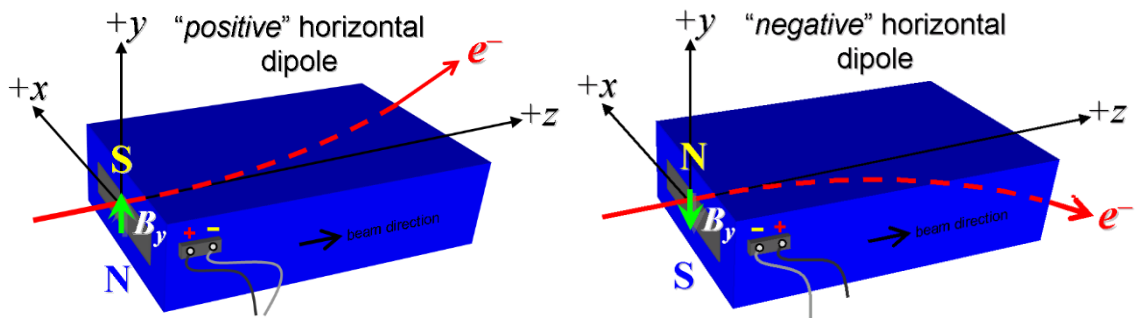

Figure 1. BCXH2 and BCXH3 are “positive” (left), while BCXH1 and BCXH4 are “negative” (right).
A beam direction arrow, with text “beam direction”, is to be applied to the top and/or tunnel aisle side of the magnet with a sticker supplied by LCLS-II (see Fig. 1 below).
- 3) Determine the main-coil connection polarity (with main supply outputting positive current) for these horizontal bends, which produces a “positive” field polarity for BCXH2 and BCXH3 (see **Fig. 1**, left side), but a “negative” field polarity for BCXH1 and BCXH4 (right side), as shown below:
Main coil polarity chosen from Fig. 1 is (“P” or “N”):	P
Trim-coil polarity chosen from Fig. 1 is (“P” or “N”):	P